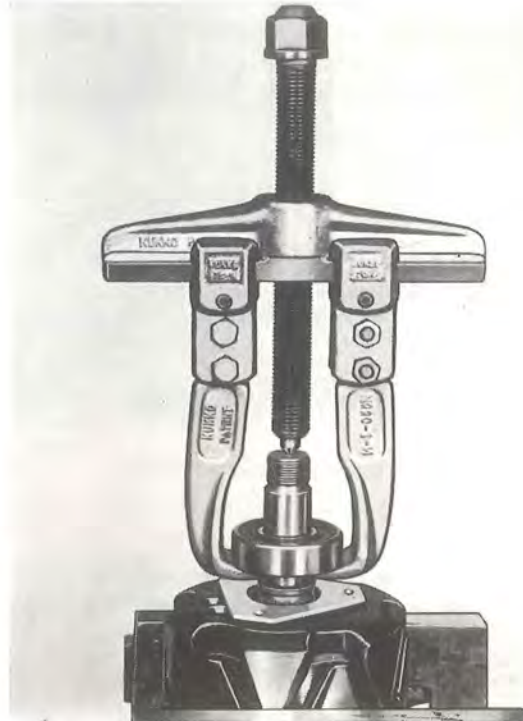

Fig. 3-16. Removing the bearing
2. Pull the bearing off with a claw puller, see Fig. 3-16.